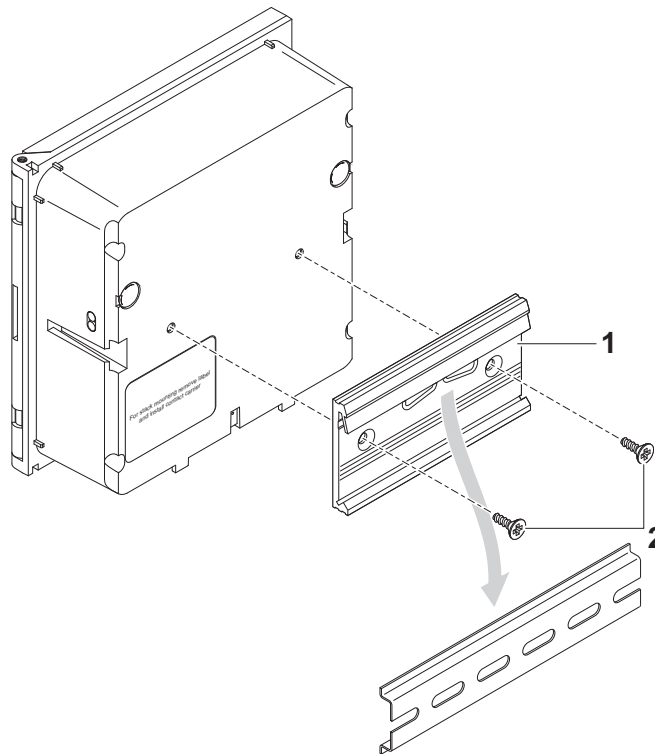

Fig. 3-25 Mounting the MIQ module on a top hat rail
1	Screw the clamping assembly (pos. 1 in Fig. 3-25) onto the back of the MIQ module with the two plastic tapping screws (pos. 2).